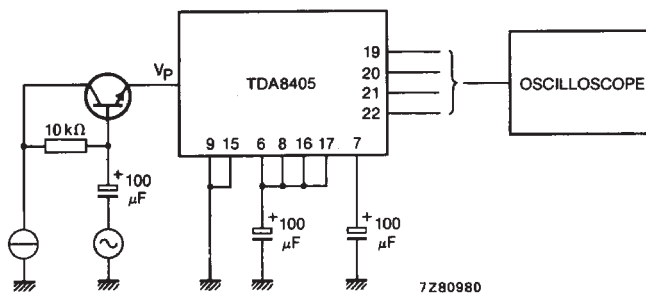

Fig. 4 Test circuit for ripple rejection: supply (d.c.) + pulse (r.m.s.) voltage at 100 Hz = 12 V + 50 mV.
6. Test circuit as in Fig. 4: ripple rejection = output modulation due to hum on the supply line.